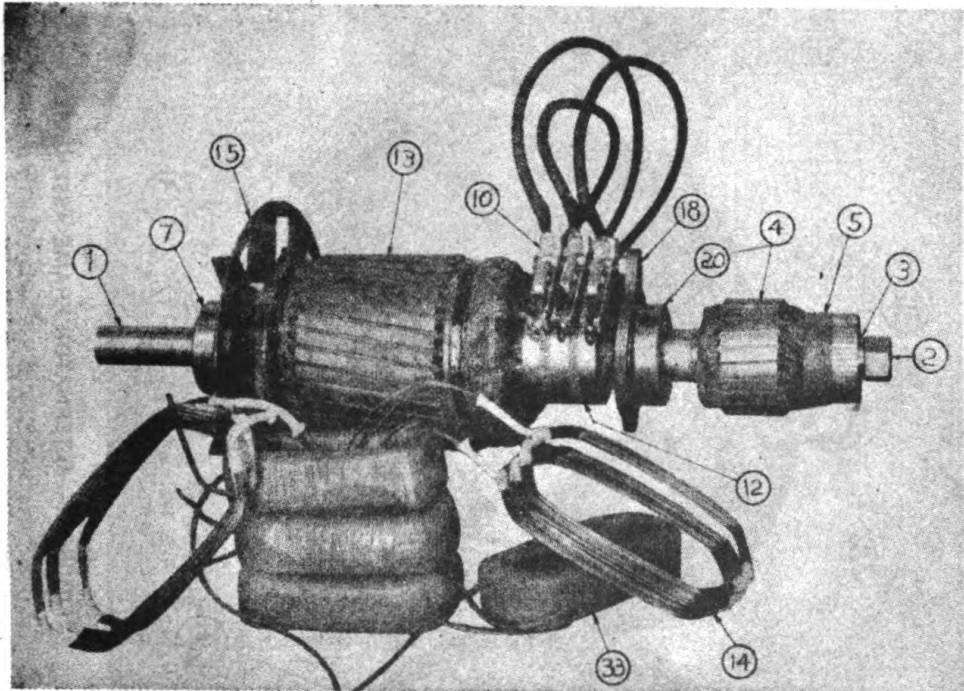

FIGURE 25--ALTERNATOR, EXCITER AND FIELD COILS
I. Alternator (Figures 25, 26 and 27).